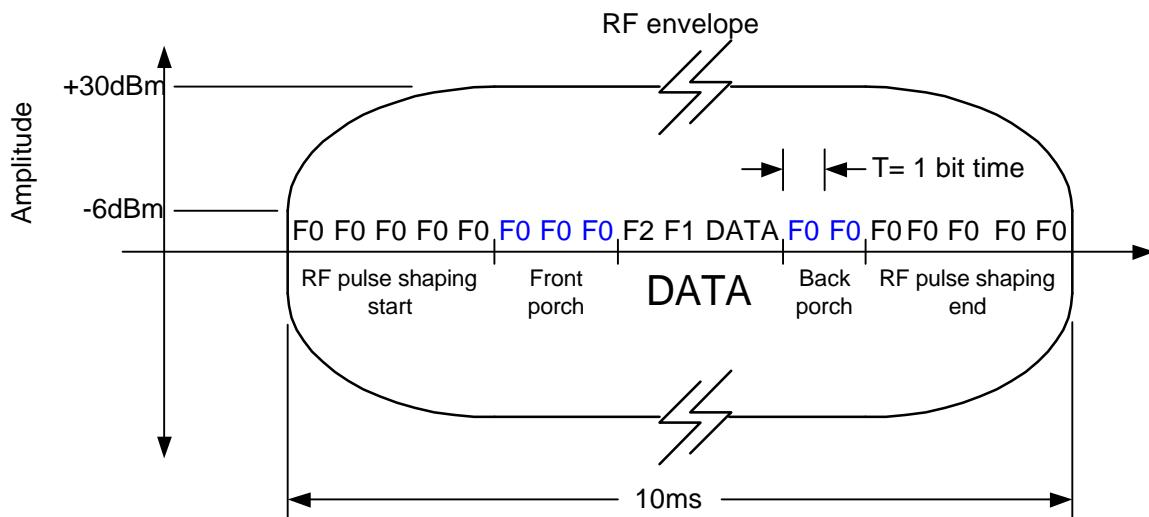

Figure 9
1. At the beginning of each transmission, the DDS generates a preamble that consists of the center frequency F_0 for a duration of five bits time plus 3 bits time. During the first five bits, the RF pulse shaping to control spurious due to turn on takes place. During that time, the power amplifier reaches the maximum power as a sine shape at each $T/4$, where T is the bit time, over the first five bits (see figure 9). Then the transmission starts with three bits of center frequency. These three bits are used on the receiver side for carrier detection and to prepare the clamp circuit (dc offset of the data signal).
Figure 9 shows the RF envelope of the transmitted signal. It shows the effect of the pulse shaping at the beginning and end of the transmission. The pulse shaping reduces the harmonic content of repetitive ON/OFF of the RF signal.